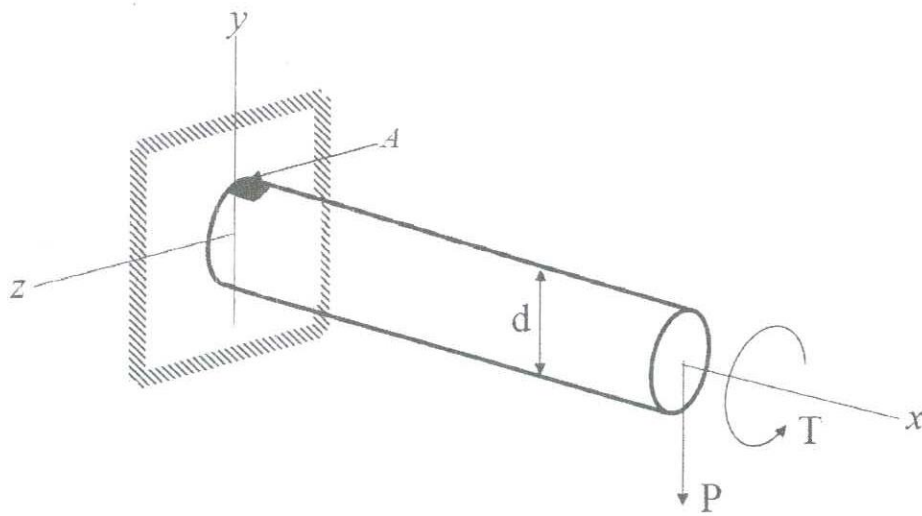

Figure Q4
b) A round cantilever bar is subjected to torsion and a transverse load at the free end as shown in Figure Q4. The bar is made of a ductile material having yield strength of 25 MPa. The transverse force (P) is 2500 N and the torque is 1000 Nm applied to the free end. The bar is 100 mm long (L) and a safety factor of 2 is assumed. Transverse shear can be neglected. Determine the minimum diameter to avoid yielding at point A , according to the following failure theories.